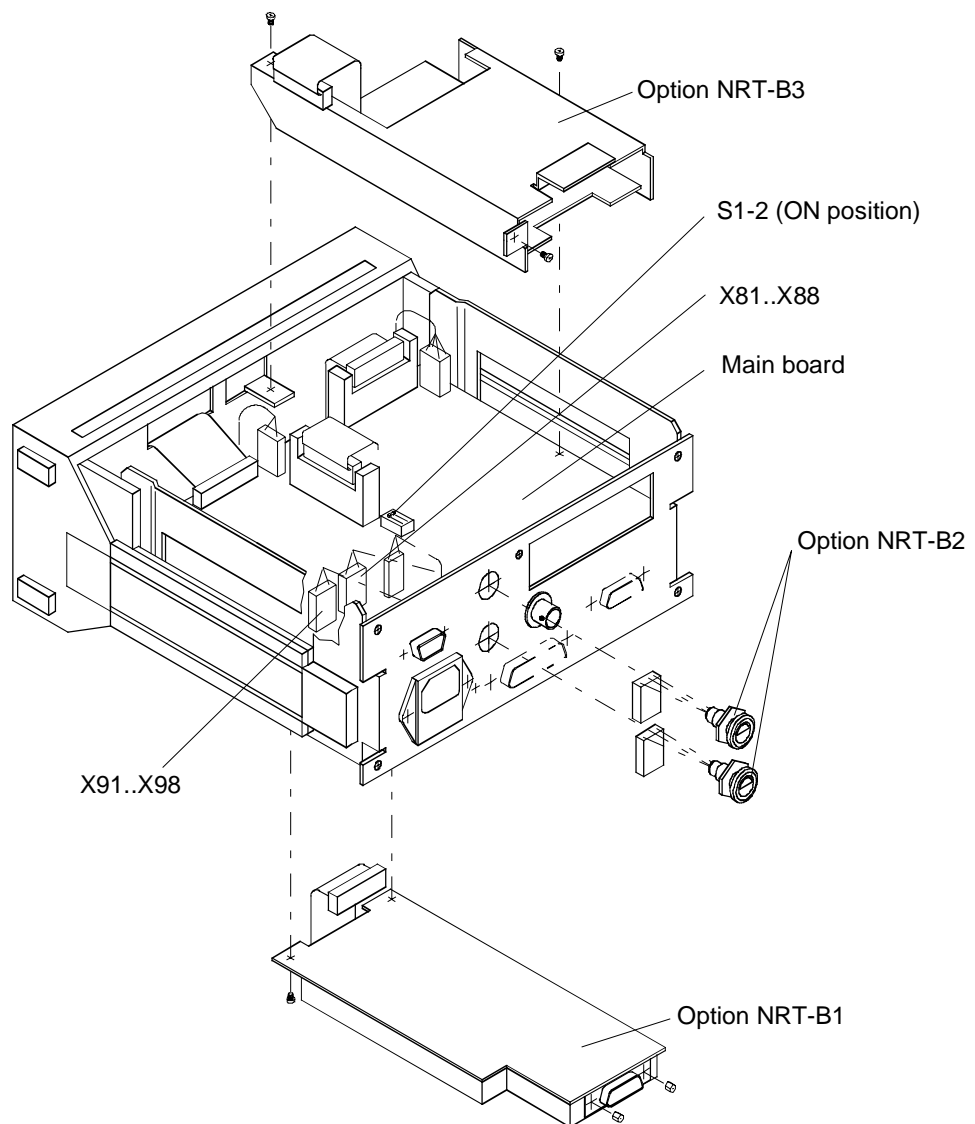

Fig. 4-5 Installation of options NRT-B1, NRT-B2 and NRT-B3
- Plug the option, with sub-D connector X1 pointing ahead, into the rear panel from inside the instrument (see Fig. 4-5).
- Remove two round caps from the rear panel (see Fig. 4-5).
- Plug the option from inside the instrument into the rear panel (Fig. 4-5).
- If fitted, remove options NRT-B1 (4.5.2) and NRT-B3 (4.5.4); see Fig. 4-5.